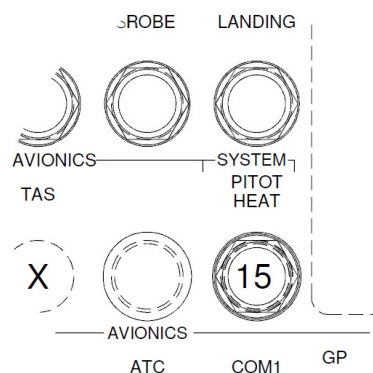

Figure 3: Circuit Breaker for G500 Instrument Panel
11.1.5.2 G500: Remove the circuit breaker cap directly below the LANDING circuit breaker and install the 15A Circuit Breaker (p/n: MS3320-15). Add the label "SYSTEM" and "PITOT HEAT" to the placard, as shown in Figure 3.